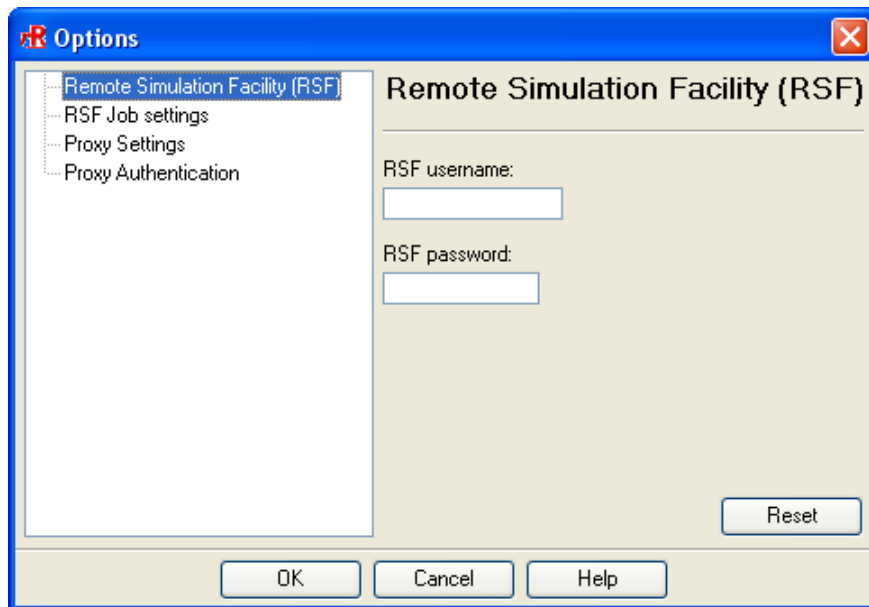

Figure 27.11.26: The Remote Simulation Facility (RSF) Options Panel
- (f) Set the RSF preferences by selecting **Preferences** from the **Edit** menu in the **RunRSF** panel. This will open the **RSF Options** panel Figure 27.11.26.
- i. Select the **Remote Simulation Facility (RSF)** node from the tree in the **Options** panel (Figure 27.11.26) to save login information for future runs. Enter your RSF username and RSF password.